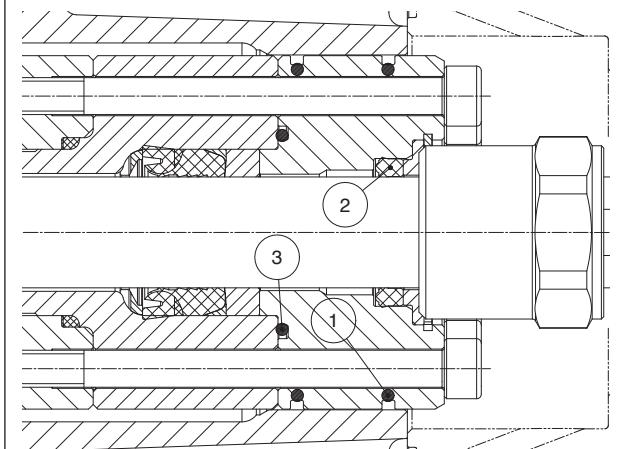

Fig. 129
- Reassemble the seals support unit as shown in Fig. 129 and Fig. 130 replacing components ①②③.